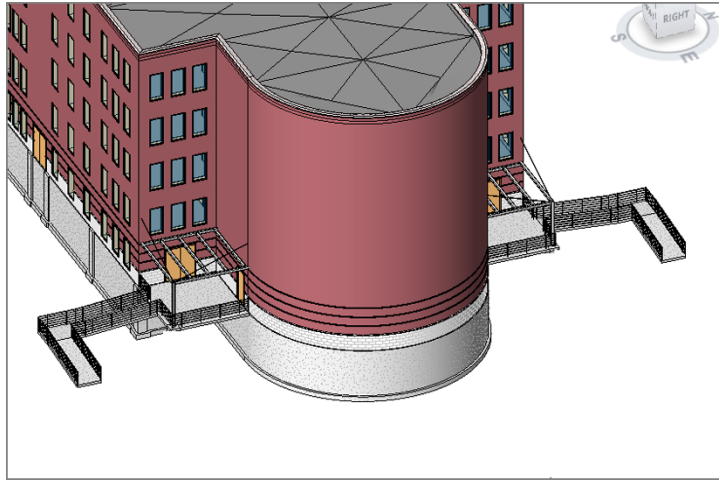

FIGURE 10.89: The two ramps
6. Mirror the slab, the ramp, and the railing to the other side of the building, as shown in Figure 10.89.